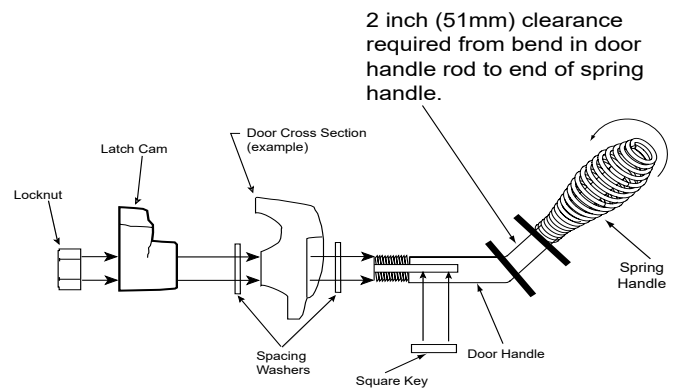

Figure 23.2
3. Install second washer(s) as shown in **Figure 23.2**.
7. Install spring handle turning in a counter-clockwise motion to **required** 2 inch (51mm) clearance location on door handle rod (**Figure 23.2**).